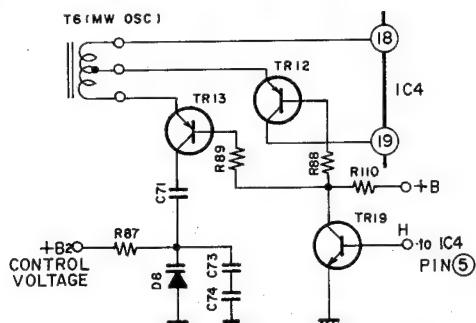

Fig. 6-7 MW OSC
- For MW, the pin (5) of IC4 is at "H" level, and so TR19 is ON, TR16 OFF, TR12 and TR13 ON, TR20 is OFF and so TR14 and T15 are OFF. This means that T6, C71, C73, C74 and D8 are connected through TR19; TR12 and TR13, to create the MW OSC state (refer to Fig. 6-7).
- For LW, the pin (6) of IC4 is at "H" level, and so TR20 is ON and TR11 is OFF, and T5 and VC6 are connected through T4 and VC5 to TR17.